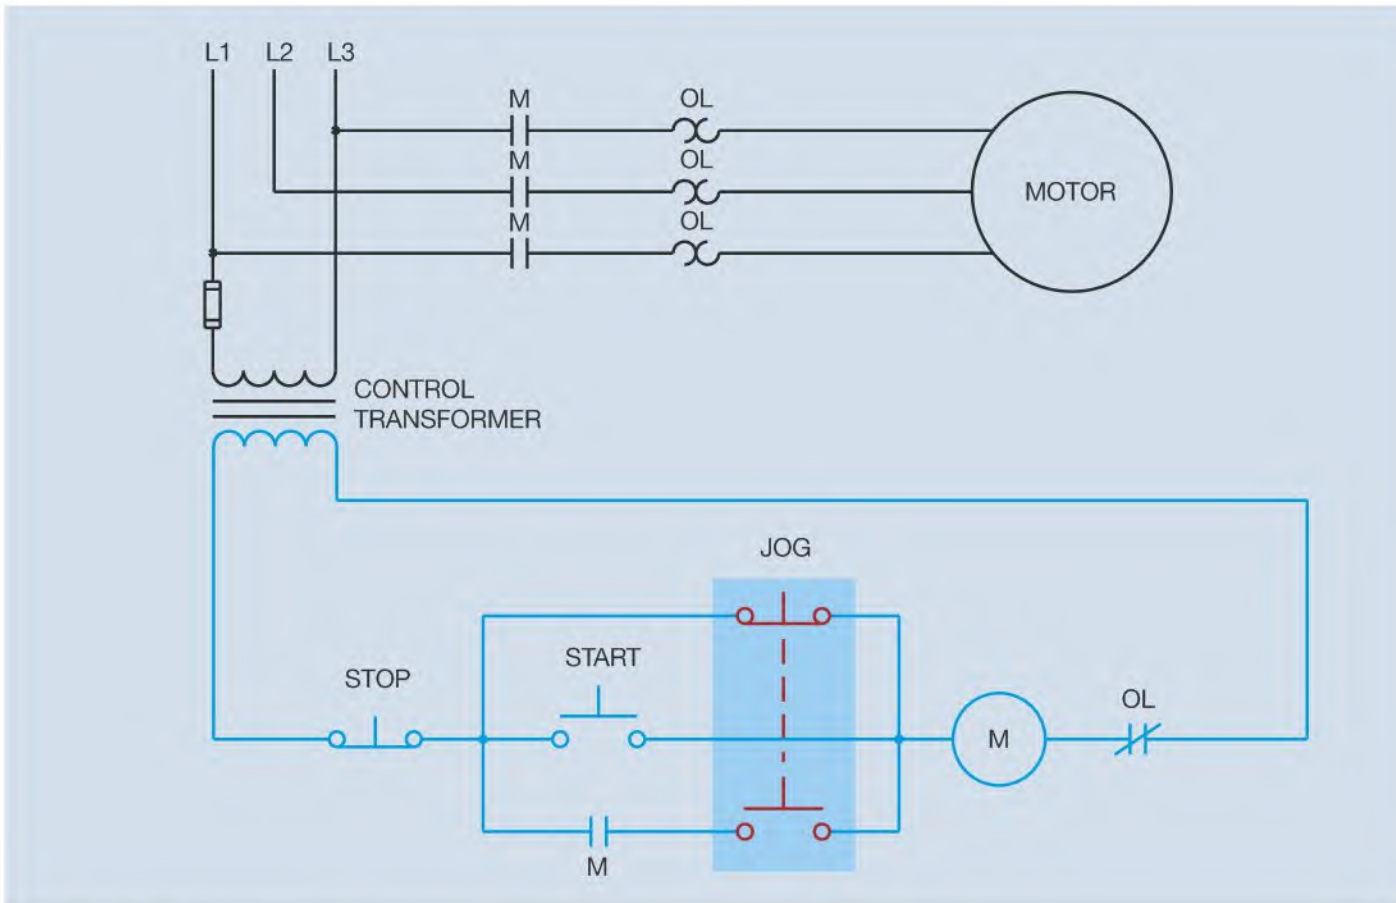

Figure 10-8 The jog button is connected incorrectly.
3. Refer to the circuit shown in Figure 10-8. In this circuit, the jog button has been connected incorrectly. The normally closed section has been connected in parallel with the run push button and the normally open section has been connected in series with the holding contacts. Explain how this circuit operates.